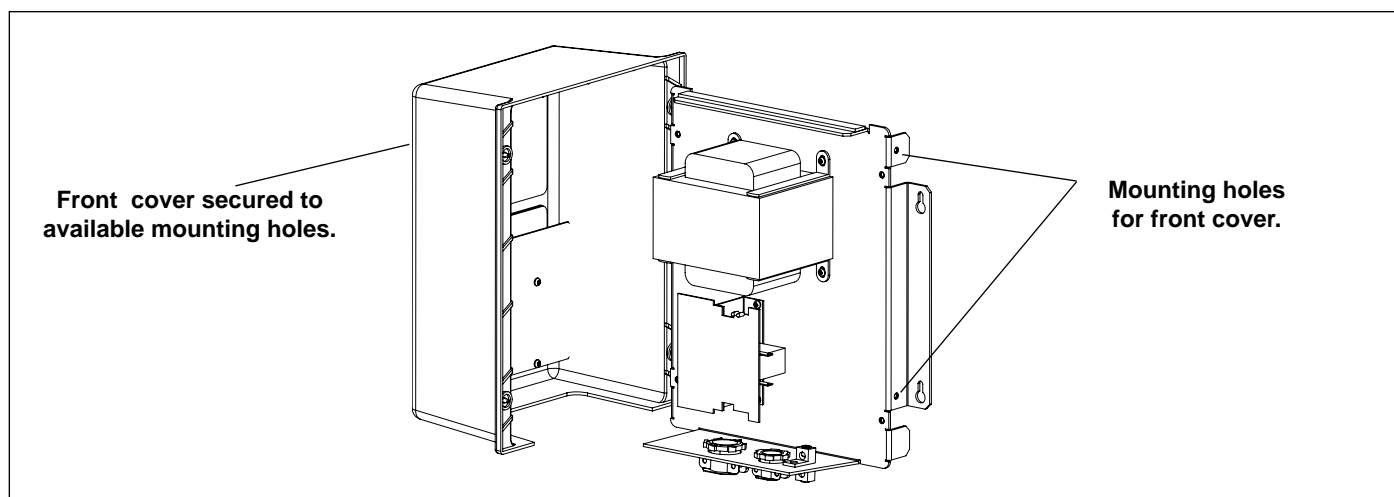

Figure 10. Securing the Control Center Front Cover to the Chassis Backplate
5. Using two of the four front cover screws, attach the cover to the chassis backplate. Please note that the chassis backplate has side mounting holes on both sides that allow you to secure the cover to either side of the backplate while you make all wire connections (see Figure 10).